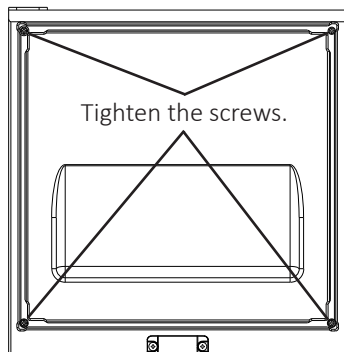

Fig. 19
- 7) Tighten the four M4×25 pan head screws installed in step 5 (See Fig. 19).